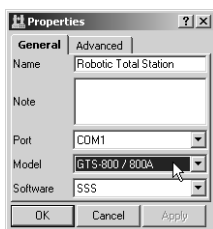

Figure 2-21. Properties – General Tab
2. On the **Properties** dialog box, click the **General** tab and set the following information (Figure 2-21), then click **Apply**: